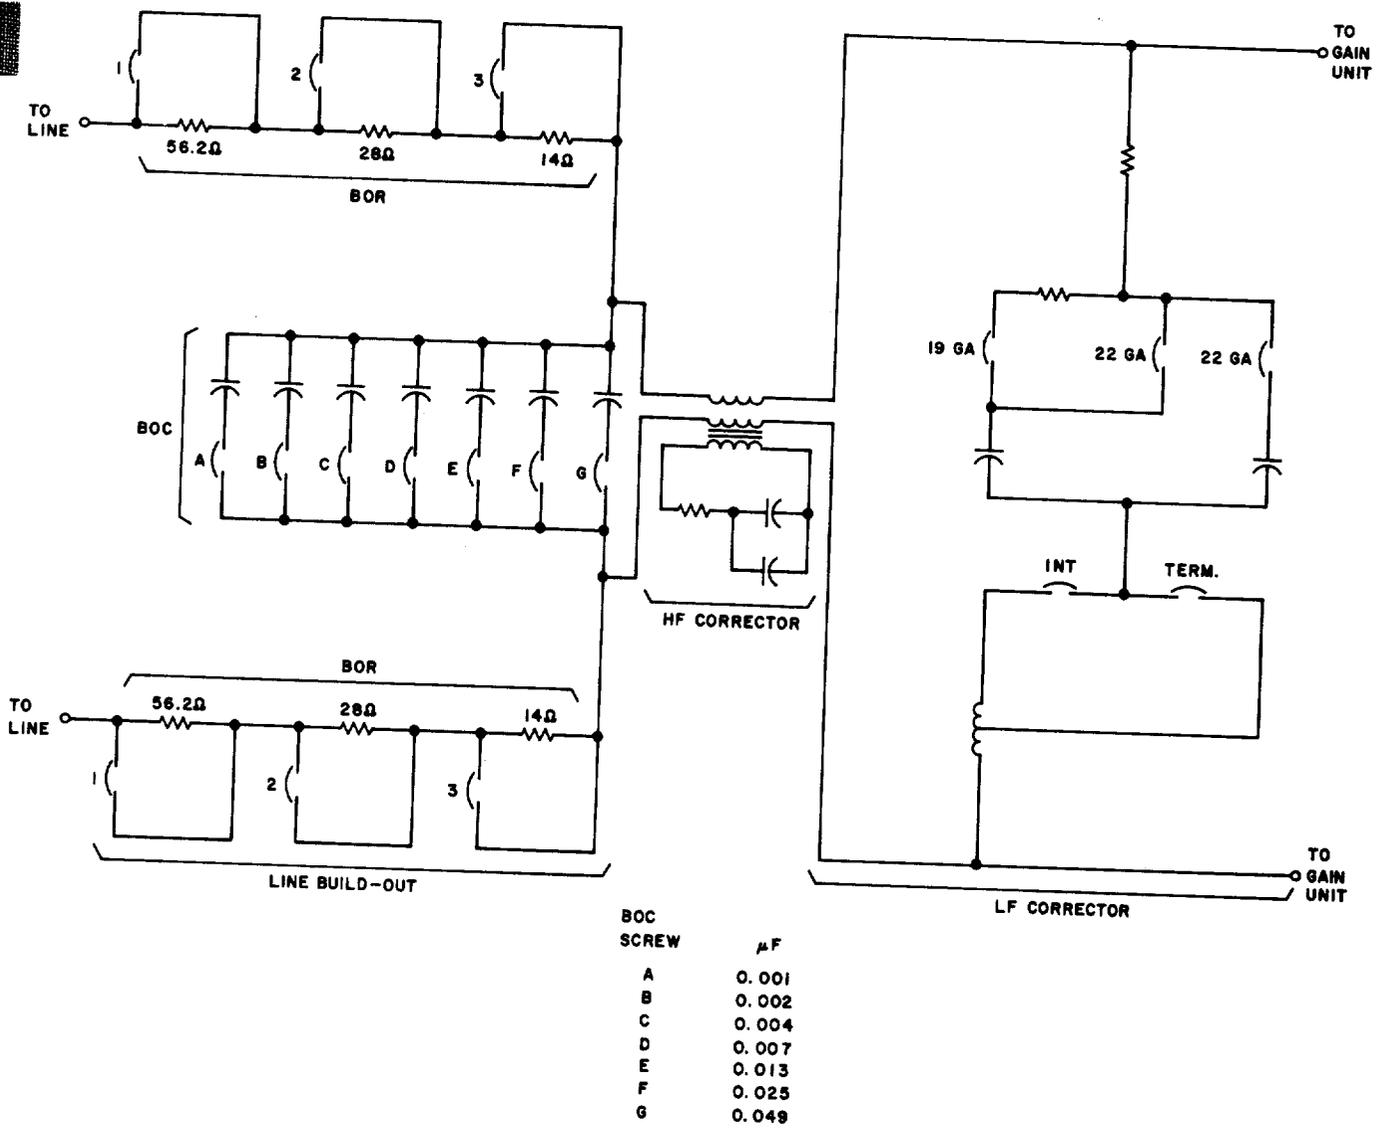

Fig. 2—830B Network—Schematic Diagram
3.01 The schematic diagram of the 830B network is given in Fig. 2. The network contains